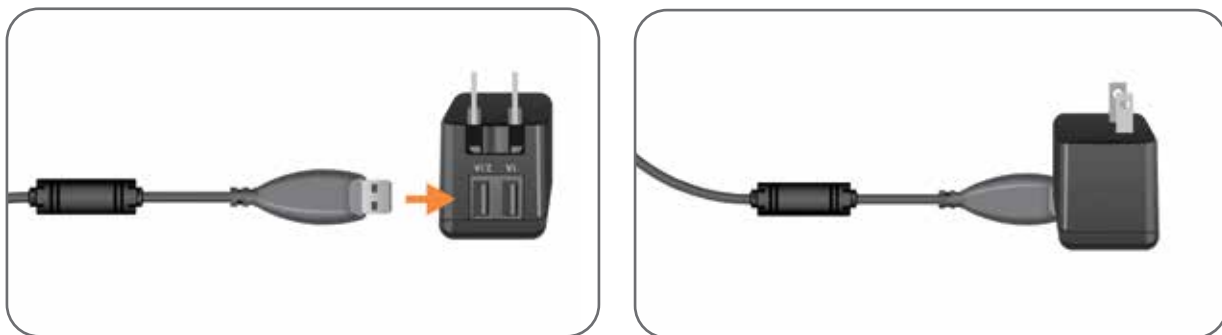

Figure 4-6: Inserting USB Charging Cable into AC Adapter
2. Insert the USB end on the magnetic charging cable into any of the two available USB ports on the AC adapter. See Figure 4-6.